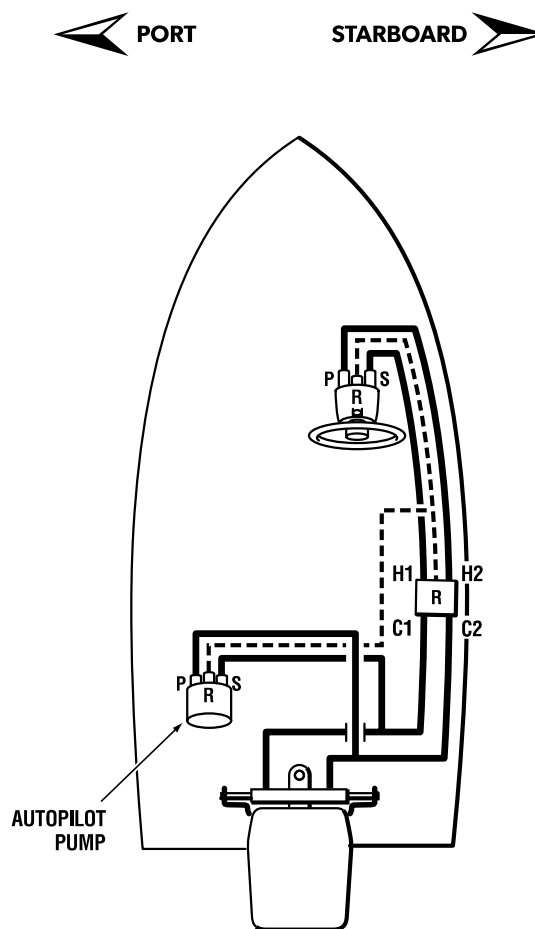

Figure 3-9.
- Connect the A/P pump output to the steering lines between the power assist pump and the steering cylinder(s) as shown in figure 3-9.